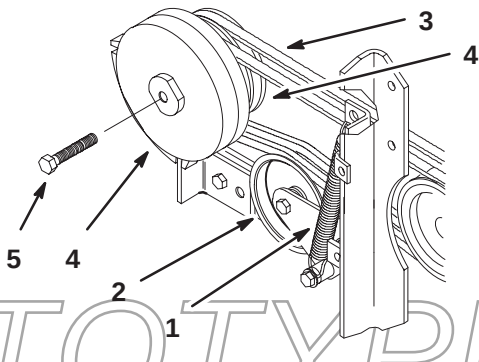

Figure 2
3. Remove PTO belts from clutch pulley (Fig. 2).
1. Remove tensioner spring on idler (Fig. 2).
5. Attach tensioner spring (Fig. 2).
2. Slide clutch onto the drive shaft (Fig. 2).
4. Install bolt into clutch (Fig. 2). Torque to 50ft.-lbs.